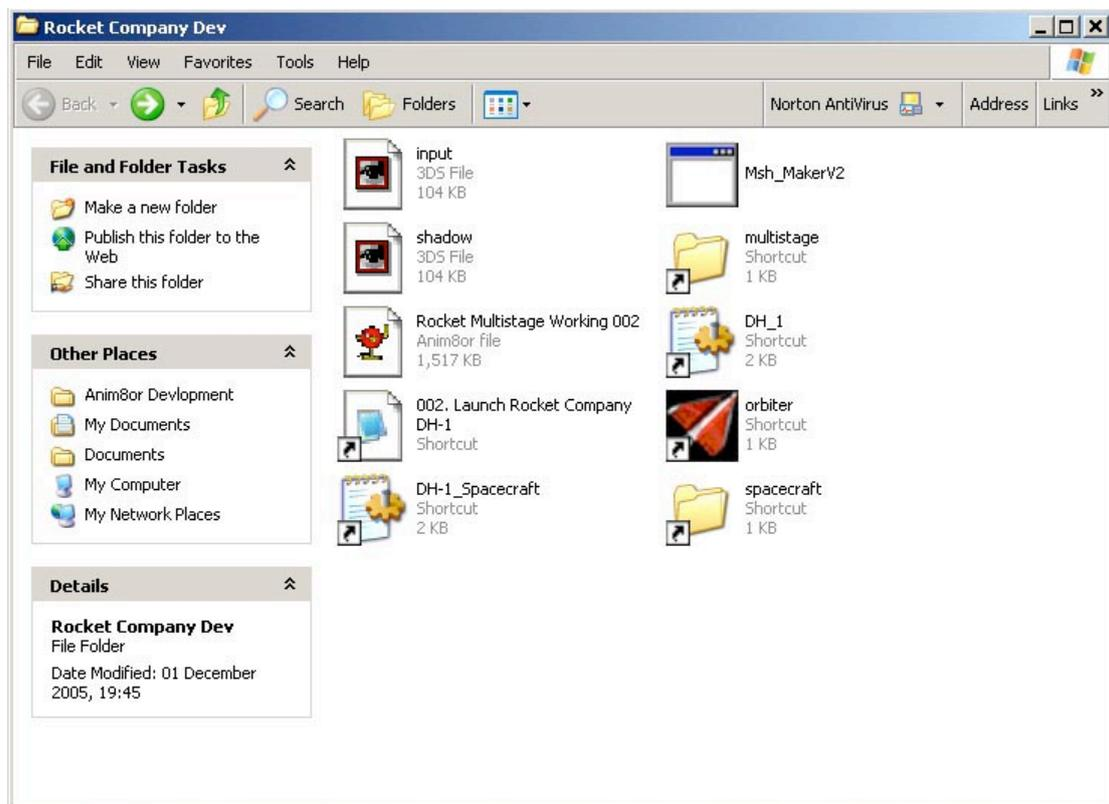

Fig 1.
Before exporting your file for conversion, make things easier for yourself and set up a separate directory containing the Anim8tor file you are working on and Meshmaker (if that's the mesh converter you're using). Also copy two random meshes into this directory and rename them 'input' and 'shadow', as shown in Fig. 1 below. I'll explain why later.
It's also a good idea when developing an add-on to use a fresh Orbiter installation for your testing and development; so into this folder place shortcuts to Orbiter.exe and any other files you will be working with during development. The two folder shortcuts, 'multistage' and 'spacecraft' in Fig.1 are pointing to folders within the Orbiter installations Meshes folder. It's into these folders that you will drop any newly created and appropriately named meshes written my Meshmaker.
* You may have decided to place all the mesh files directly into the Meshes folder, or into the separate folders called multistage & spacecraft as shown in Fig. 1. You may also create a different folder name of your choice. As long as the path is correctly cited in the config file it will work.